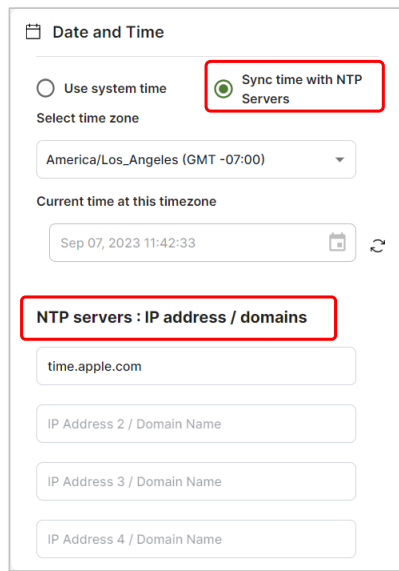

Figure 59: Date and Time – Sync Time with NTP Servers Selected
3. To use **Sync Time with NTP Servers**, select that radio button (Figure 59). This selection provides four additional fields for specifying different IP addresses / domains to which you can sync the system time.
To avoid this issue, make SLiM/SAM time settings using “Sync Time with NTP Servers” feature on the Settings page (see Figure 59 above).